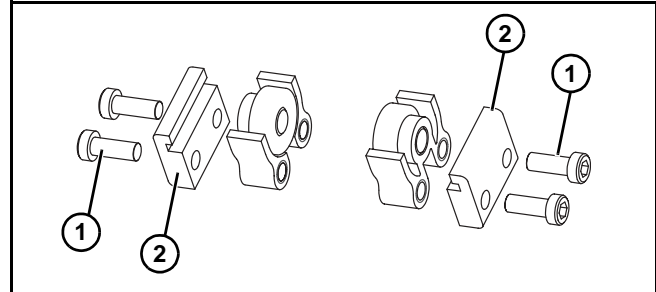

Figure 13
5. Fasten brackets (**Figure 13, item 1**) to support stand (**Figure 13, item 2**) with mounting screws (**Figure 13, item 3**), washers (**Figure 13, item 4**) and nuts (**Figure 13, item 5**).
1. Locate return rollers. Exploded views shown in **Figure 13**.
2. Remove screws (**Figure 13, item 1**) and clips (**Figure 13, item 1**) from roller assembly.